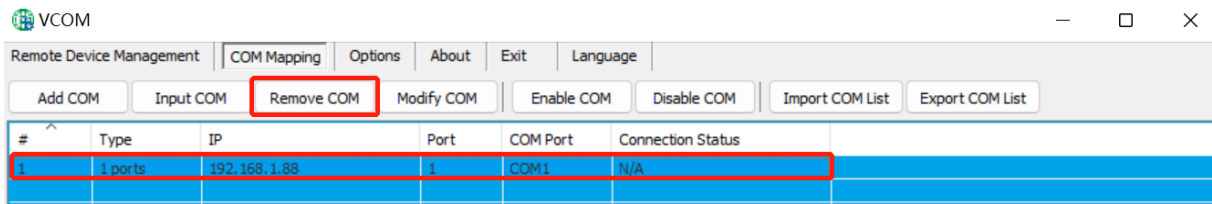

Figure 10
- In the software "VCOM", first select the virtual serial port to be deleted, and then select the communication port mapping interface, click "Delete Communication Port" to delete the virtual serial port, as shown in Figure 10 below